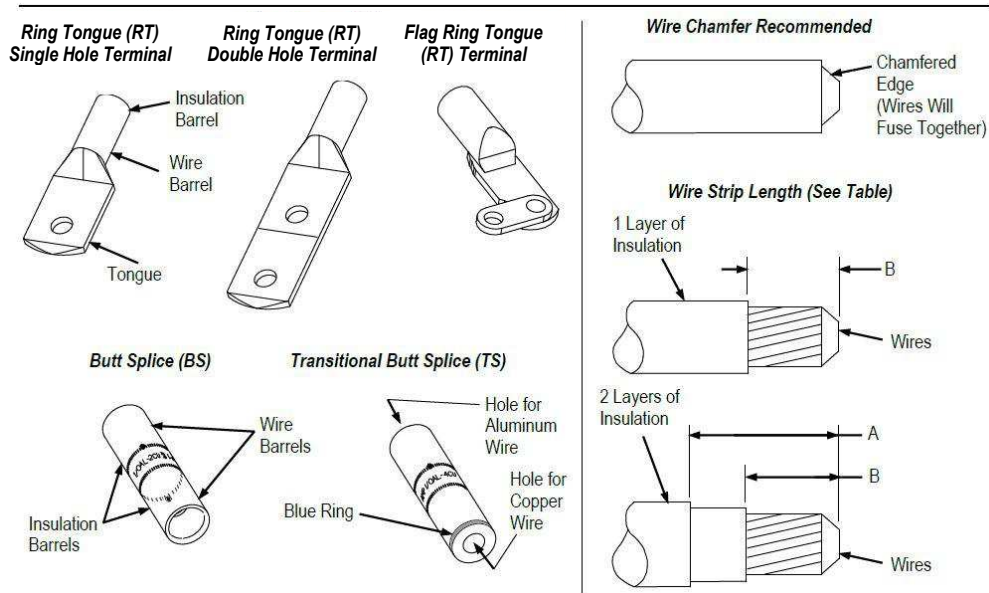

Figure 2
1. Refer to Figure 2/Table 2 to select the appropriate die assembly and terminal or splice according to the wire.
2. Cut the end of the wire perpendicular to the wire; **do not** distort the shape of the wire. It is recommended to chamfer the edge around the group of wires. See Figure 2. The chamfer aids in the insertion of the wire into the terminal or splice.